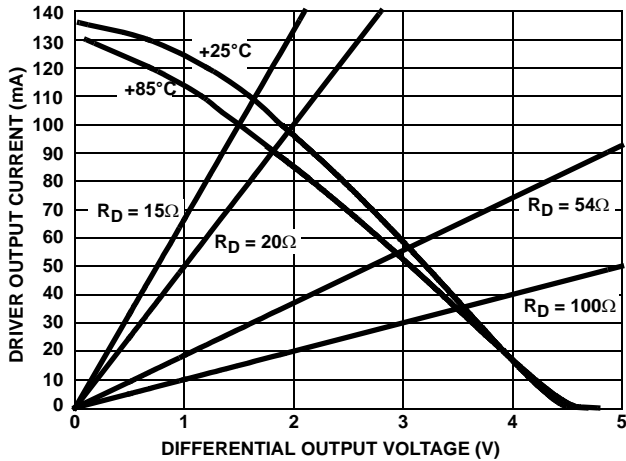

FIGURE 8. DRIVER OUTPUT CURRENT vs DIFFERENTIAL OUTPUT VOLTAGE
- See Figure 8 for more information, and for performance over temperature.
Another advantage of the large  $V_{OD}$  is the ability to drive more than two bus terminations, which allows for utilizing the ISL315XE in "star" and other multi-terminated, "non-standard" network topologies. Figure 8, details the transmitter's  $V_{OD}$  vs.  $I_{OUT}$  characteristic, and includes load lines for six (20Ω) and eight (15Ω) 120Ω terminations. The figure shows that the driver typically delivers 1.65/1.5V into 6/8 terminations, even at the worst case temperature of +85°C. The RS-485 standard requires a minimum 1.5V  $V_{OD}$  into two terminations, but the ISL315XE delivers RS-485 voltage levels with 3X to 4X the number of terminations.